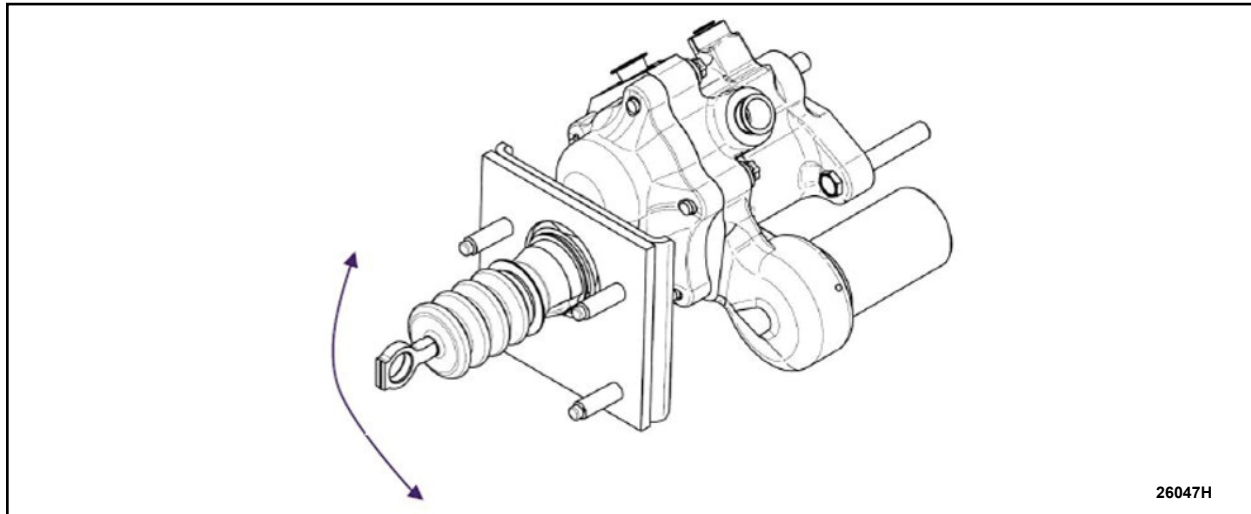

FIGURE 8
16. While pulling up on the brake pedal, gently move the brake booster push rod up and down, the full length of travel, 8 (eight) times. See Figure 8.